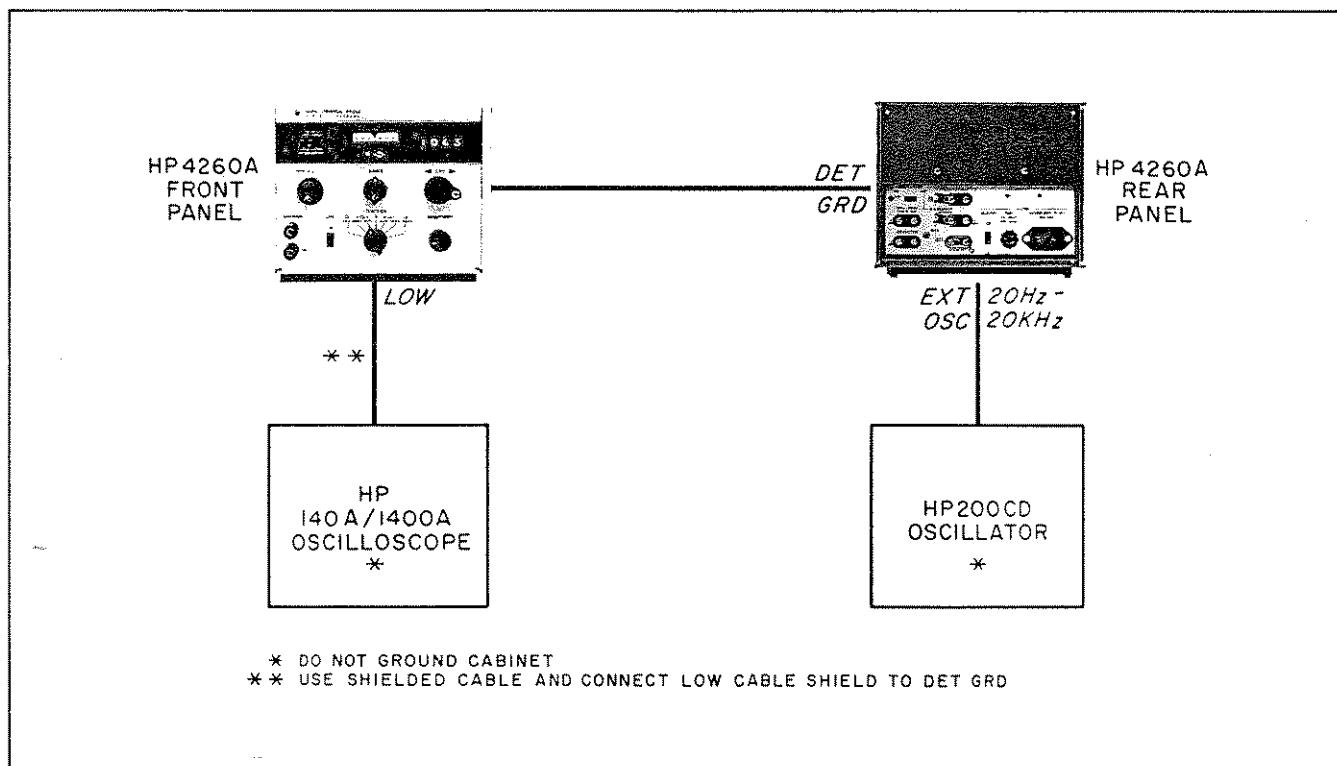

Figure 5-5. Test Setup for Adjustments
- 5-30. INTRODUCTION. The procedures in Paragraphs 5-31 through 5-38 outline checks and adjustments for the components in the bridge circuit. These include fixed $0.2 \mu F$ capacitor C1, compensating capacitor C305, CRL resistor R3, trimmers C103, C104, C3, and accuracy of resistors in the RANGE switch. The test equipment setup is shown in Figure 5-5. These checks and adjustments should be performed in the order listed when a comprehensive overall instrument checkout is desired. Test equipment for these checks is listed in Table 5-6.
5-31. C1 CHECK. To check fixed bridge capacitor C1, connect the instruments as shown in Figure 5-5.
- a. Connect the test setup as shown in Figure 5-5.
- a. Connect test equipment setup as shown in Figure 5-5.
- a. Connect test equipment as shown in Figure 5-5.
- a. Connect test setup as shown in Figure 5-5.